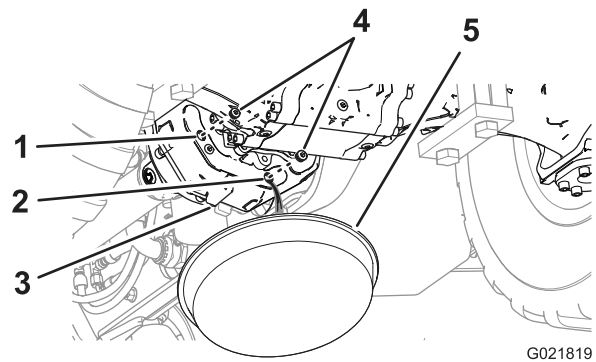

Figure 73
1. Place a drain pan under the back side of the transmission housing (Figure 73).
2. Remove the plugs from the drain port and the sight port in the transmission housing (Figure 73).